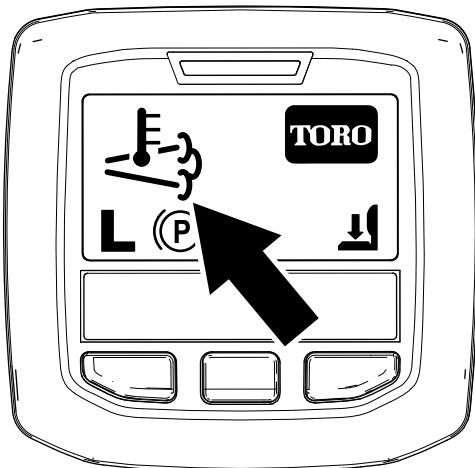

Figure 63
- The high exhaust-temperature icon  displays in the InfoCenter (Figure 63).